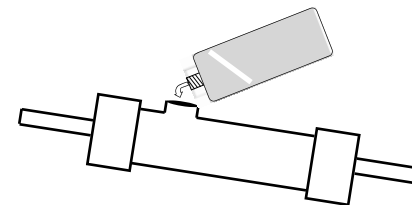

Figure 4
10. If you mixed by shaking (and the clear bag has not been removed) remove tube from mixing bag, remove cap from tube, and squeeze or pour the encapsulant into the pour spout, slightly tilting the closure. (see figure 4). If mixed by alternative mixing method, pour encapsulant from open end into the pour spout, slightly tilting the closure. Make sure splice is fully encapsulated.